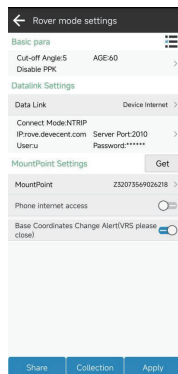
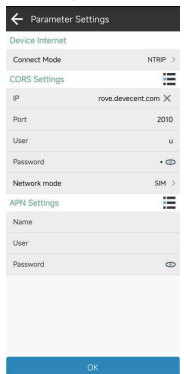
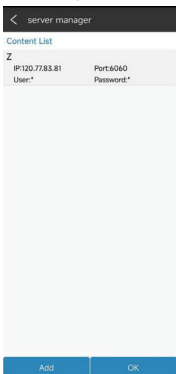

Figure 2.4-3
Figure 2.4-4
Figure 2.4-5
2.Host Network: As shown in Figure 2.4-3, this involves obtaining differential data via the GNSS device's SIM card network. It uses a protocol to retrieve data from a specified server address for high-precision calculation. Clicking on the parameters below the data link allows you to modify and edit settings, as shown in Figure 2.4-4. The connection mode uses differential data transfer protocols like NRTIP and TCP client. Input server IP, port, username, password, and other connection parameters. The SIM network requires configuring APN parameters. CORS server parameters can be selected from the server management list, as shown in Figure 2.4-5, or you can manually add CORS server